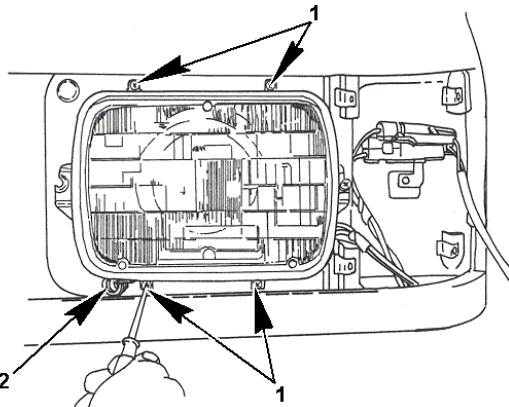

Figure 228 G47005228.TIF **Removing Retaining Ring**
4. Remove headlight retaining ring screws and retaining ring (Fig. 228, Item 1).